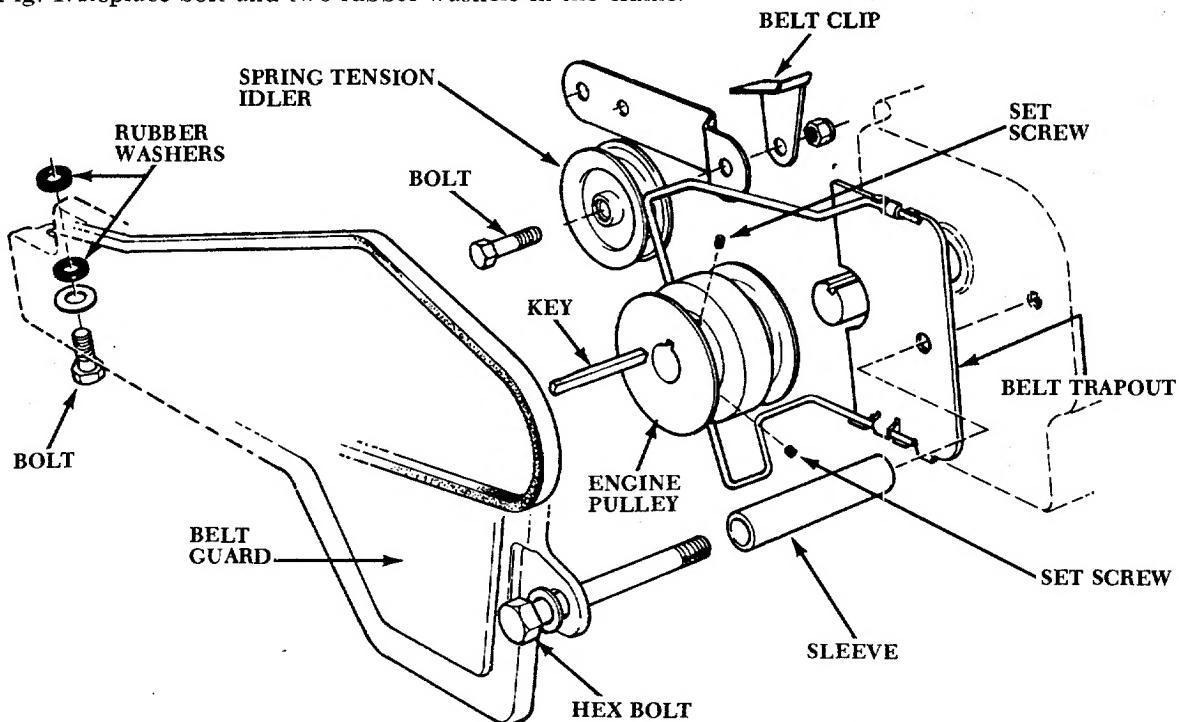

FIG. 1
5. Loosen the bolt holding the spring tension idler and belt clip. Mark position of belt clip. Roll belt off pulley TOWARDS the engine. Remove set screws (2) and pull off engine pulley. Refer to Fig. 1. Replace bolt and two rubber washers in the frame.